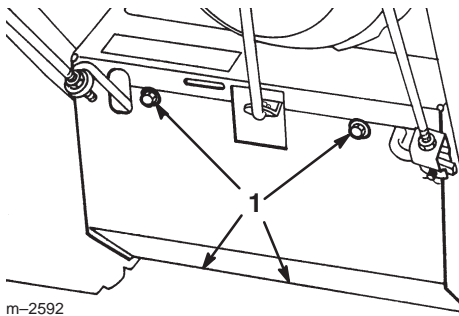

Figure 25
- 4. Remove the 4 flange-head bolts that secure the bottom cover to the frame and remove the cover (Fig. 25).
- Remove the 4 flange-head bolts that secure the bottom cover to the frame and remove the cover (Fig. 25).
5. Remove the 4 flange-head bolts that secure the bottom cover and remove the cover (Fig. 25).